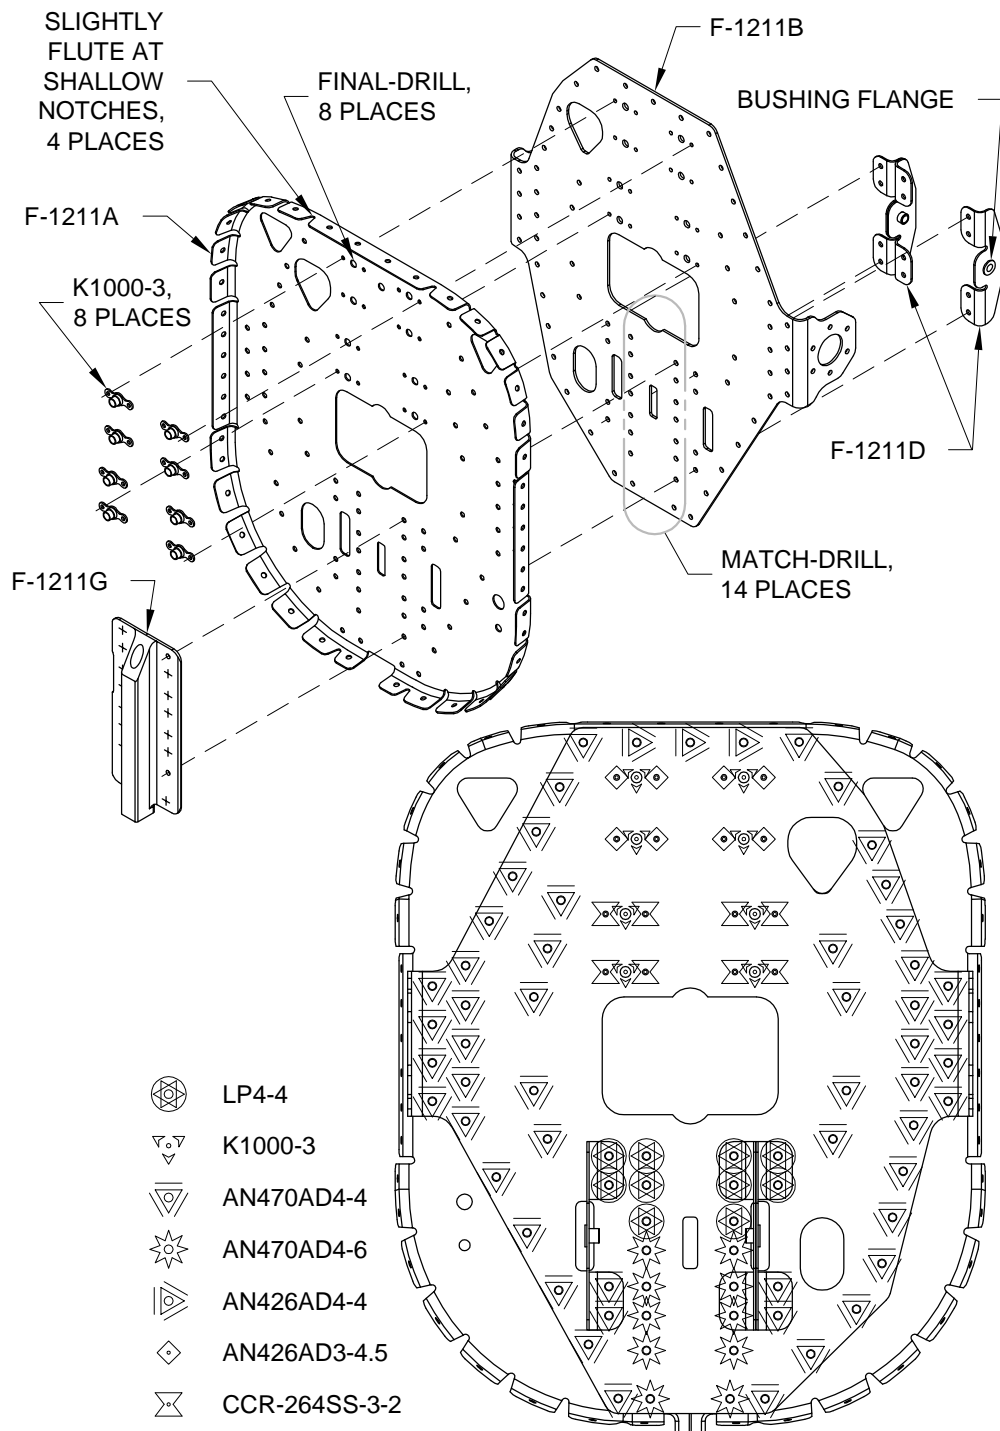

FIGURE 2:
Step 8: Rivet the F-1211A Fuselage Bulkhead to the F-1211B Bulkhead Doubler, using the rivets indicated in Figure 2.
Step 9: Rivet the F-1211D Attach Brackets and F-1211G Tail Skid Bracket to the F-1211 Assembly using the rivets indicated in Figure 2.
Step 10: Rivet the nutplates to the F-1211 Assembly as shown using hardware indicated in Figure 2.